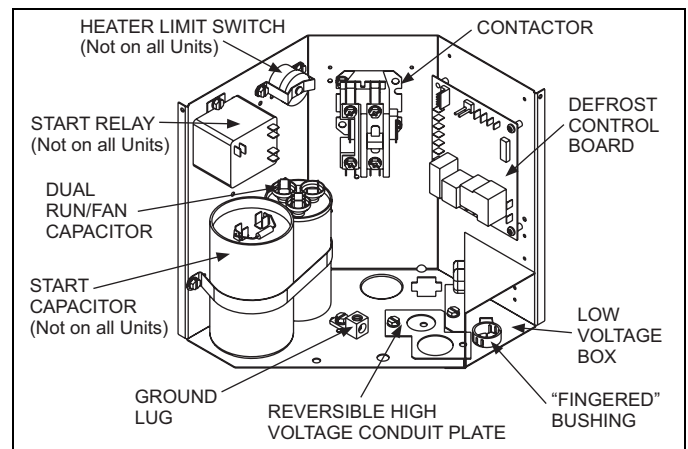
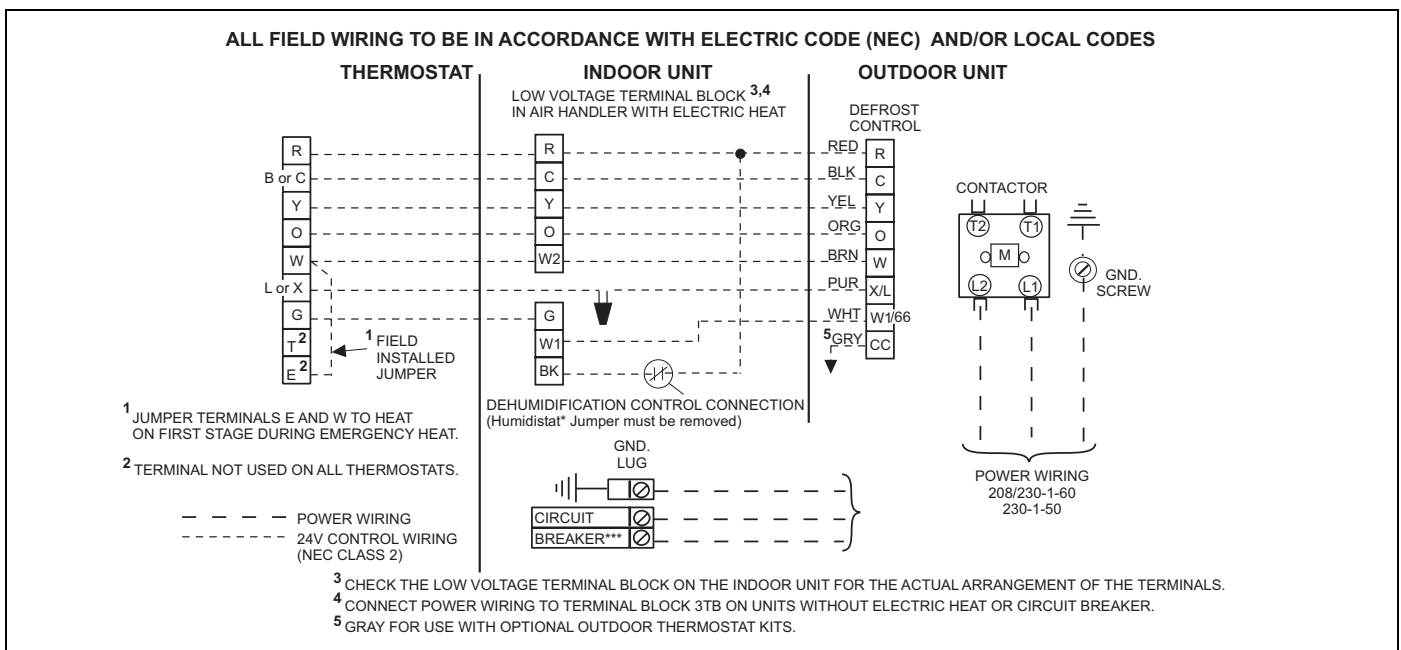

FIGURE 7: Outdoor Unit Control Box
FIGURE 8: Low Voltage Wiring
4. Route wires from disconnect through power wiring opening provided and into the unit control box as shown in Figure 7.
1. Route low voltage wiring into bottom of control box as shown in Figure 7. Make low voltage wiring connections inside the low voltage box per Figure 8.